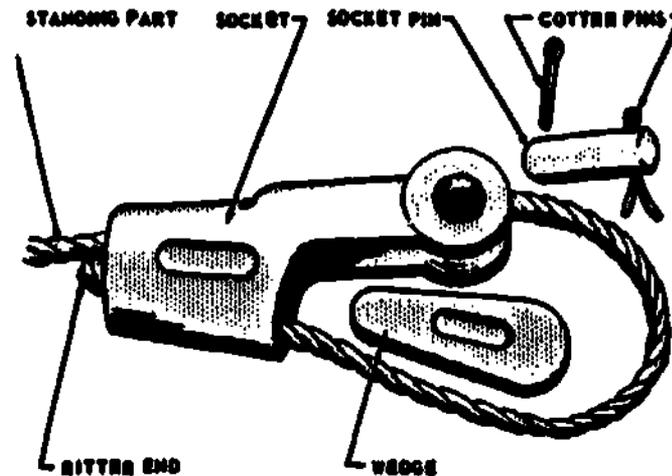
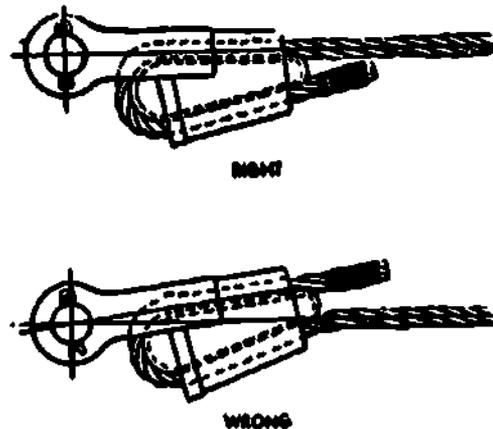

Fig 2-29. Wedge cable socket.
Fig 2-30. Wedge socket and fitting.
a. Wedge sockets. There are many different types of attachments which can be fitted to the end of a wire rope to provide a means for connecting the end to a pad eye. The one most frequently used to dead-end wire rope on earthmoving equipment is the wedge socket (fig 2-29). To install a wedge socket, remove the pin and knock out the wedge. Pass the rope up through the socket and lead enough of it back through the socket to allow two inches of the dead end to extend below the socket. Next, replace the wedge and pull the live end of the rope to force the wedge into the socket. Take a strain on the live end to securely seat the wedge. Make sure that the socket is installed on the equipment so that the line end of the wire rope will form a nearly direct line to the clevis pin (fig 2-30). To remove the rope, simply drive the wedge from the socket.